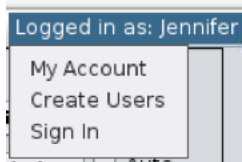

Figure 19 The Sign-In Menu
The File > Save As... selection pops up a selection dialog in a separate window which is floating on top of the main display window and is not attached to anything, as shown in Figure 19. This dialog is titled "Save target list table" and is similar to the File > Open dialog except in addition to having a list of the saved target lists in the database it also contains a text box which allows entering a new name. This text box will be filled with a default name of "TargetList1" which can be edited. If TargetList1 already exists then TargetList2 will be the default, etc., increasing the number as needed. The dialog has a **Cancel** and a **Save** button. Clicking **Cancel** will close the selection dialog window and return the user to the main display without saving the target table. Clicking **Save** will save the target list with the name in the text box.
- Insert New Target.** Insert new target into table above cursor filling in default values. Users can then edit these values. If the target set name is undefined then popup the "Save As..." dialog window (Figure 19) to prompt the user to enter a target set name.